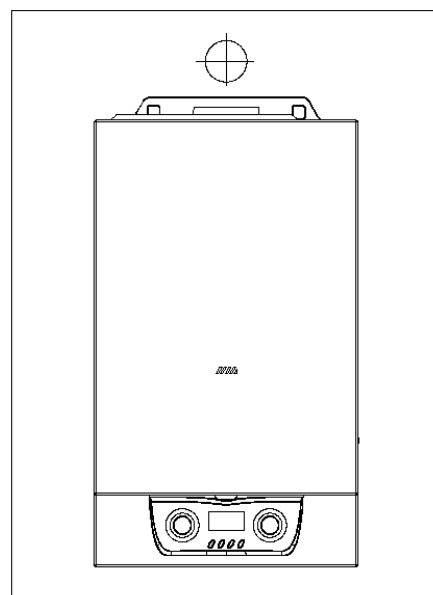

Рис. 12
- e) then hang the boiler on the suspended panel (fig. 12)